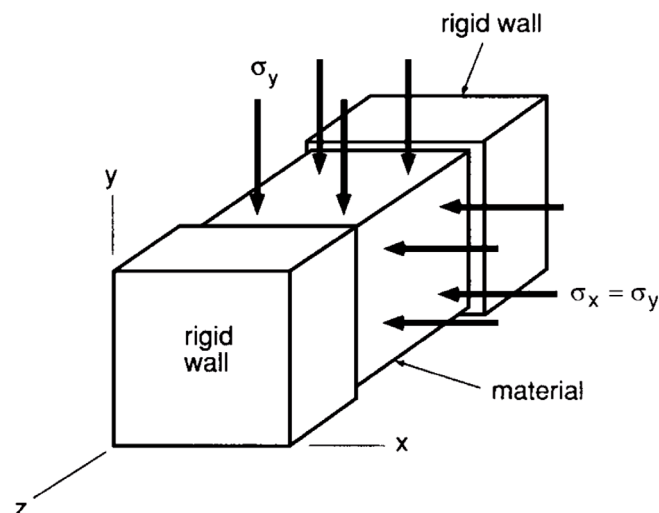

Figure Q2 (b)
- (b) A block material is subjected to equal compressive stresses in the x- and y-directions and it is confined by a rigid die so that it cannot deform in the z-direction as shown in Figure Q2[b]. Assume that there is no friction against the die and also that the material behaves in an elastic-perfectly plastic with yield stress σ_o .